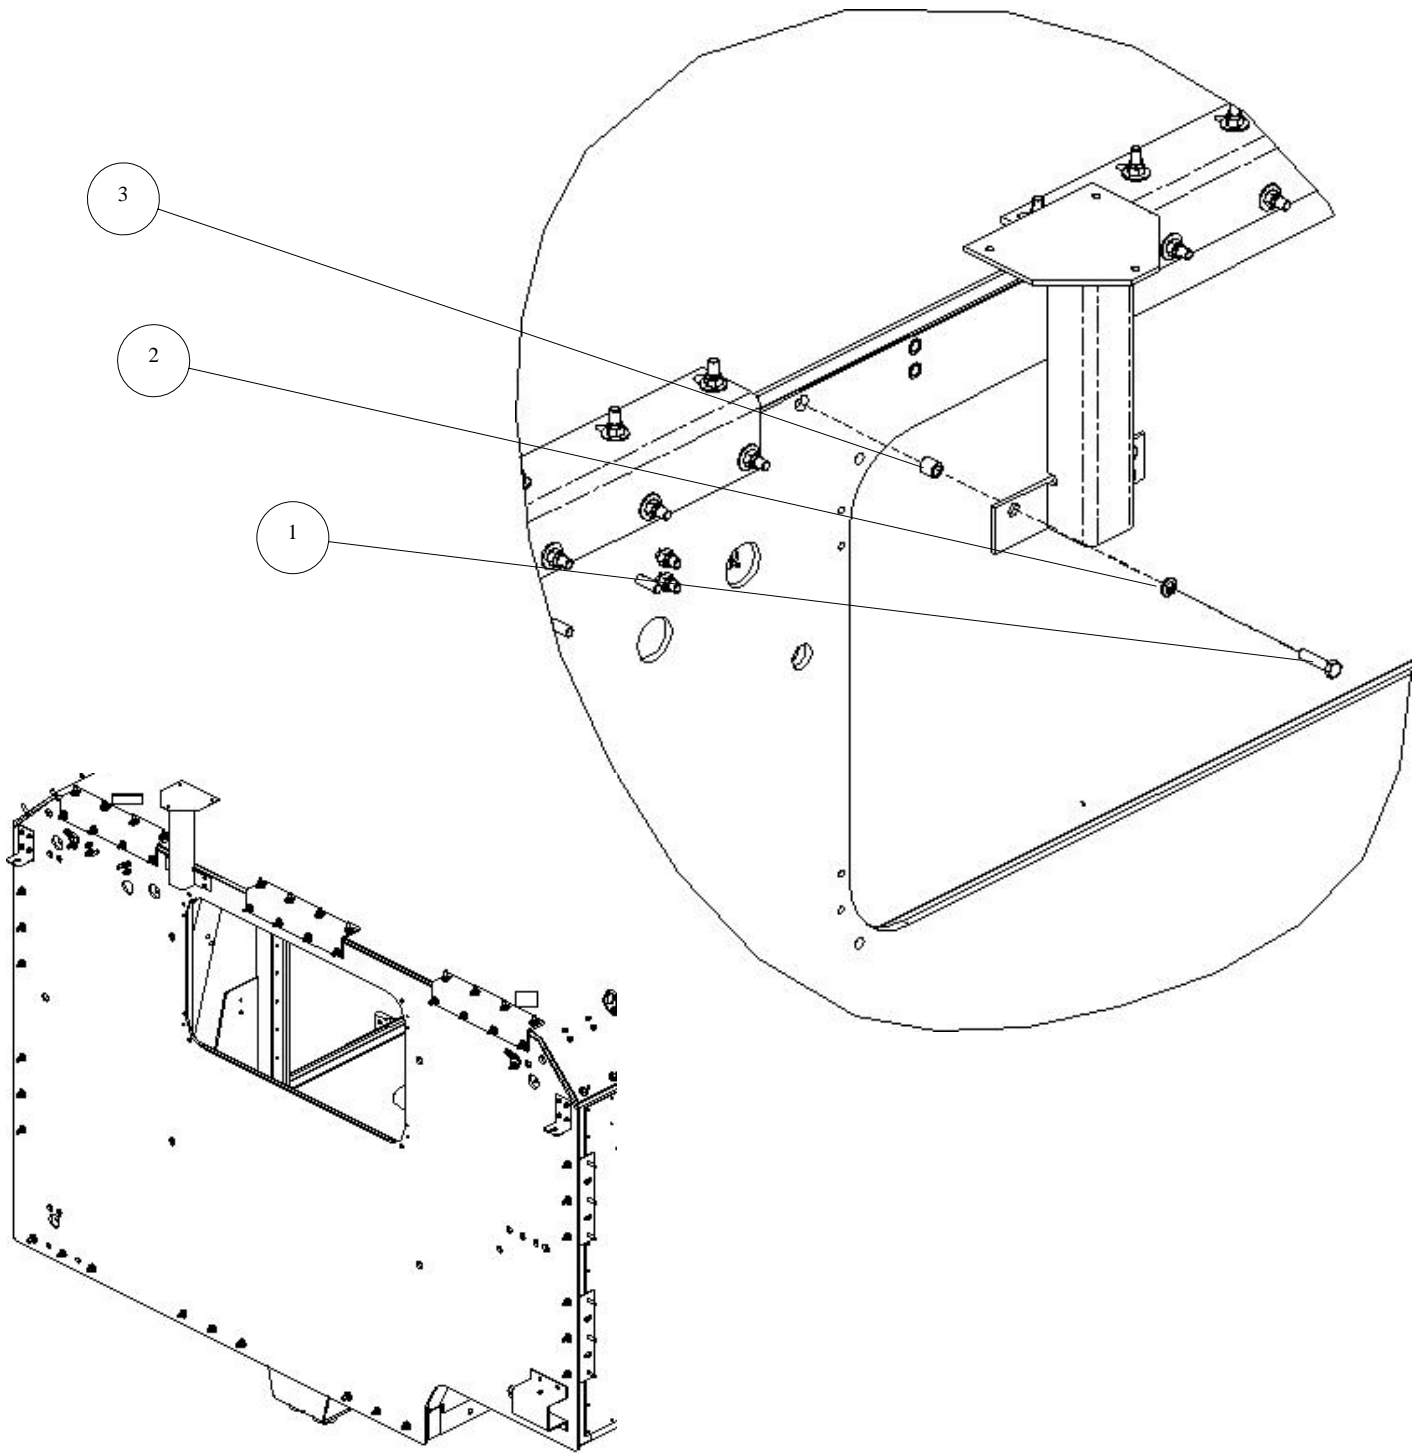

Figure 3-16. Beacon Light Bracket Assembly Installation.
5. Install beacon light bracket as follows (see Figure 3-16):
- a. Re-install beacon light bracket assembly (retained from Teardown, Chapter 2) using three bolts (1), three lock washers (2), and three spacers (3). Torque bolts to 23 lb-ft.